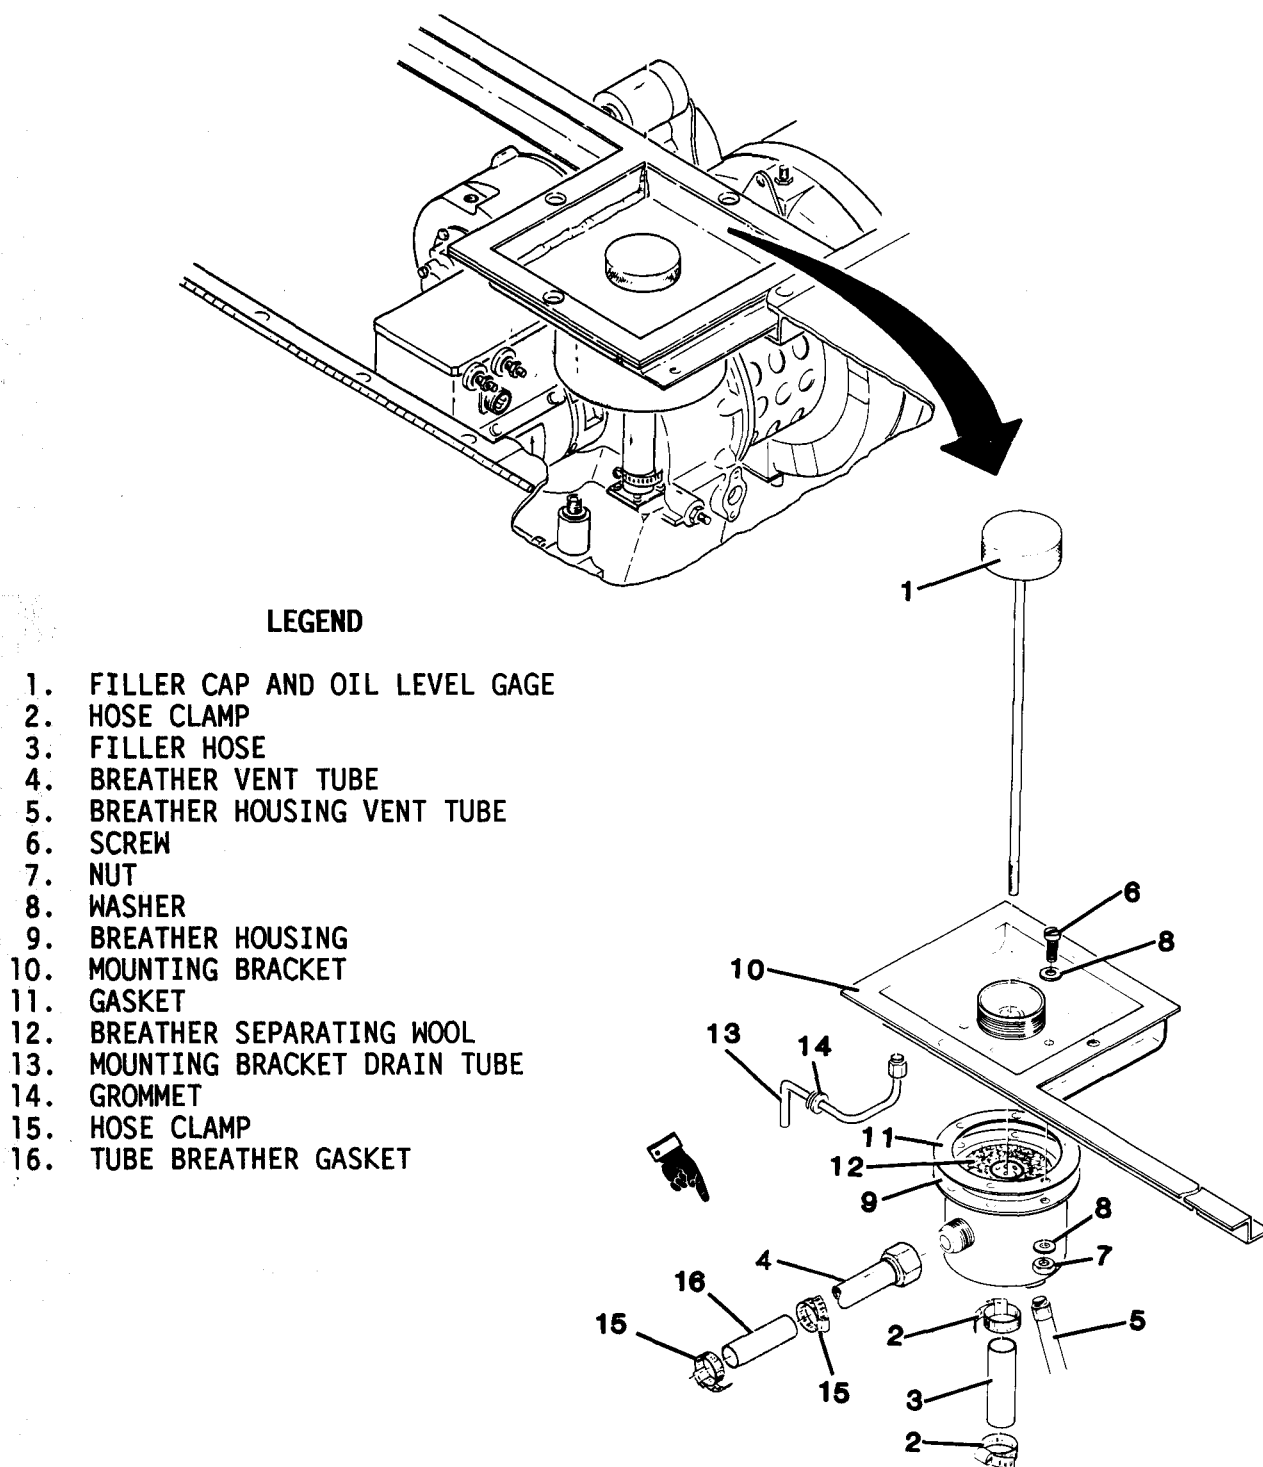

Figure 4-33. Oil Filler/Breather Assembly
**4-50. OIL FILLER/BREATHER ASSEMBLY.** The oil filler/breather assembly (figure 4-33) provides the means for checking and adding oil. It also provides ventilation for the reservoir. It consists of a filler cap and oil level gage and a breather. Maintenance consists of inspection, replacement, and repair.